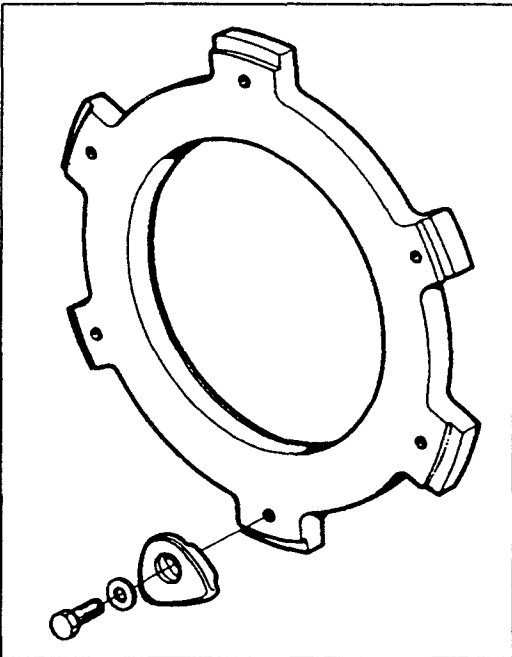

Fig.10
**#14010360 Fischer adaptor 22.5" (Fig.10).**